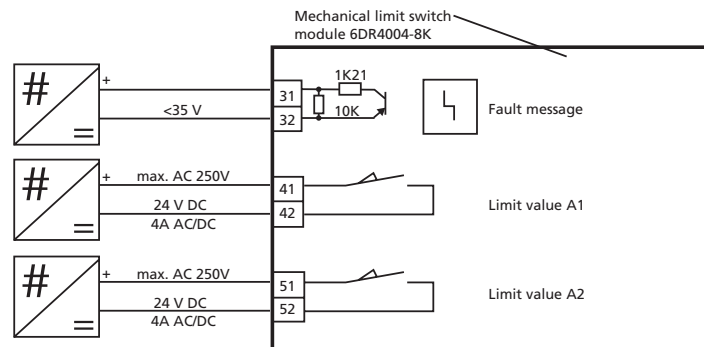

Figure 10. - Mechanical limit switch module 6DR4004-8K, not Ex
11. Refer to Figures 10 and 11 to connect the Mechanical Limit switch module in standard and intrinsically safe applications.